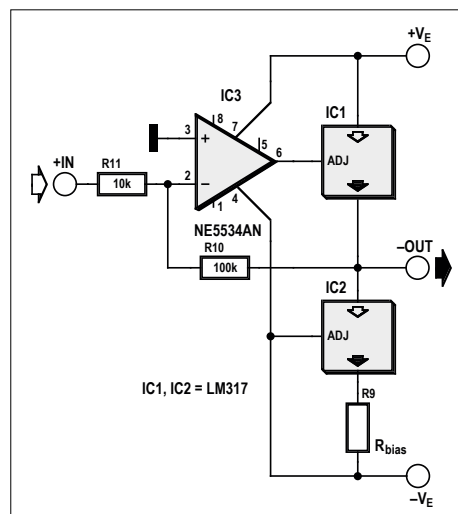

Figure 1. The operating principle of this Class-A amplifier is very simple.
**Figure 1** shows the basic circuit diagram. IC1 is controlled by opamp IC3. IC2 is configured as a current source and in this way ensures that the current can